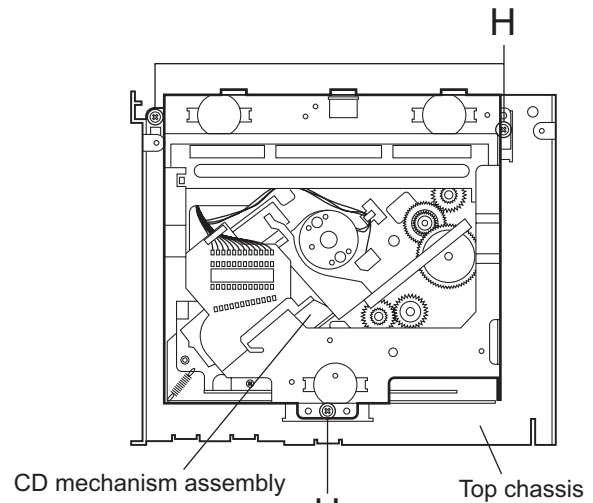

Fig.9
2.1.7 Removing the CD mechanism assembly (See Fig.9)